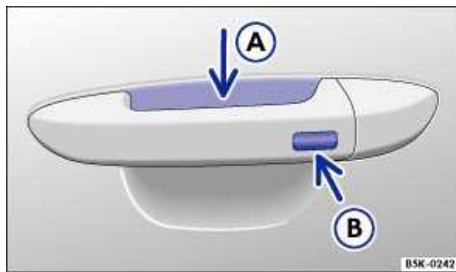

Fig. 24 Keyless Access system: Sensor for unlocking A on the inside of the front door handles. Sensor for locking B on the outside of the front door handles.
All you have to do is touch a sensor surface on one of the front outside door handles ⇒ fig. 24 or push the Volkswagen emblem on the rear hatch ⇒ *Opening the rear hatch* when a valid remote control vehicle key is within range ⇒ .
- Keyless Entry: Unlocking the vehicle with the sensor surfaces on the outside door handles of the driver or front passenger door ⇒ fig. 24 \(A\) or by using the Volkswagen emblem on the rear hatch.
To use the convenience closing feature to close all power windows and the sunroof, hold your finger on the lock sensor surface on the outside of the door handle ⇒ fig. 24 \(B\) for a few seconds until the windows and sunroof close.